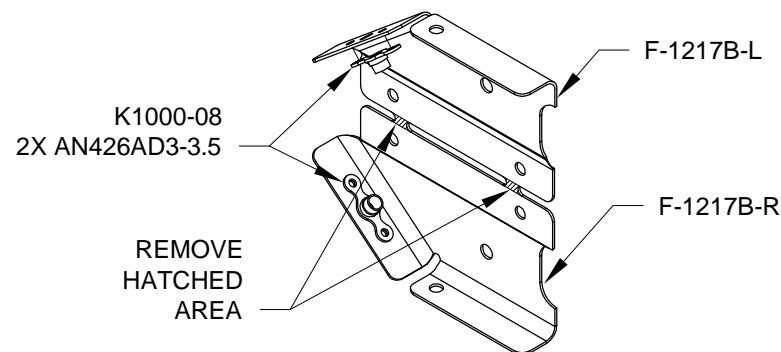

FIGURE 2: RUDDER PEDAL ACCESS COVERS
Step 3: Make the F-1217B-L and -R Rudder Pedal Access Covers by removing the hatched area from the F-1217B Rudder Pedal Access Cover as shown in Figure 2. Debur.
Step 4: Dimple the nutplate rivet hole locations in the the F-1217B-L and -R Rudder Pedal Access Covers and in the nutplates. Rivet the nutplates to the rudder pedal access covers as shown in Figure 2.